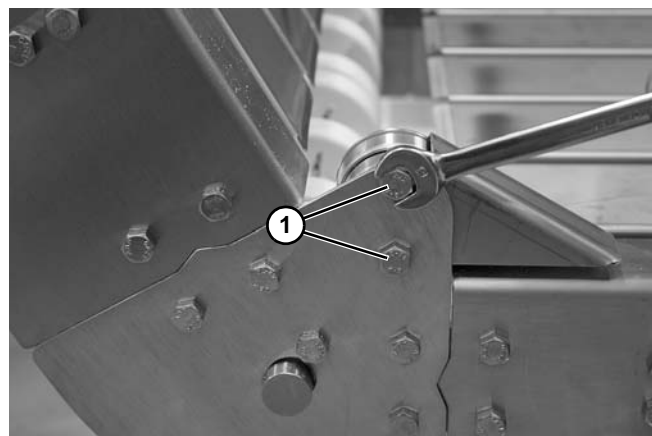

Figure 12
2. Remove screws (**Figure 12, item 1**).